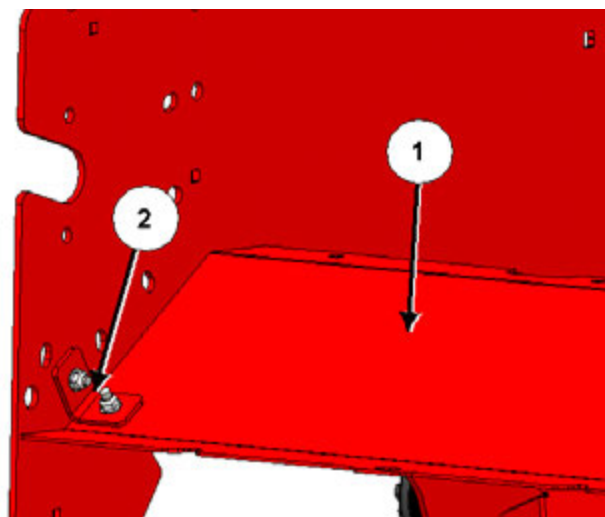

Figure 9: Remove lower bent side sheet
- c. Remove the lower bent side sheet (1); see *Figure 9*:
- i. Carefully remove the bolt fastening the lower bent side sheet (1) to the tub mount (2), ensuring to support the side sheet.